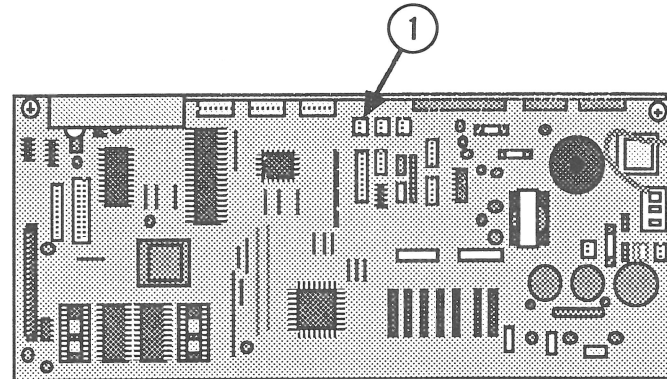

FIGURE 1
2. Disconnect the home position switch cable from main board connector CN10 (Figure 1, #1).